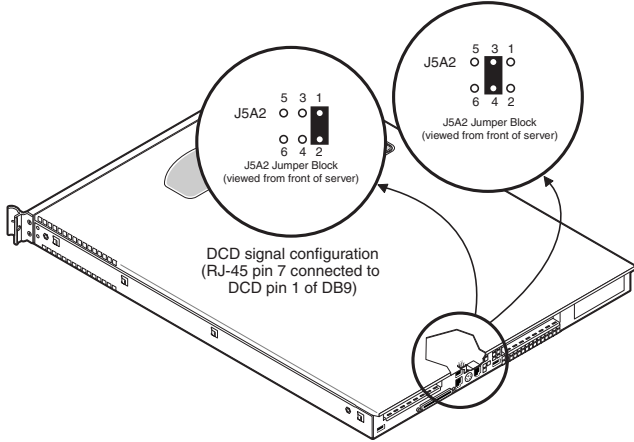

FIGURE 5-37 Installing the EMP Cable
1. **Plug the DSR Peripherals cable into the rear panel RJ-45 Serial COM2 connector as shown in Figure 5-37.**
2. **Configure the J5A2 jumper as shown in Figure 5-37.**
1. **Plug the DCD Modem cable into the rear panel RJ-45 Serial COM2 connector as shown in Figure 5-37.**